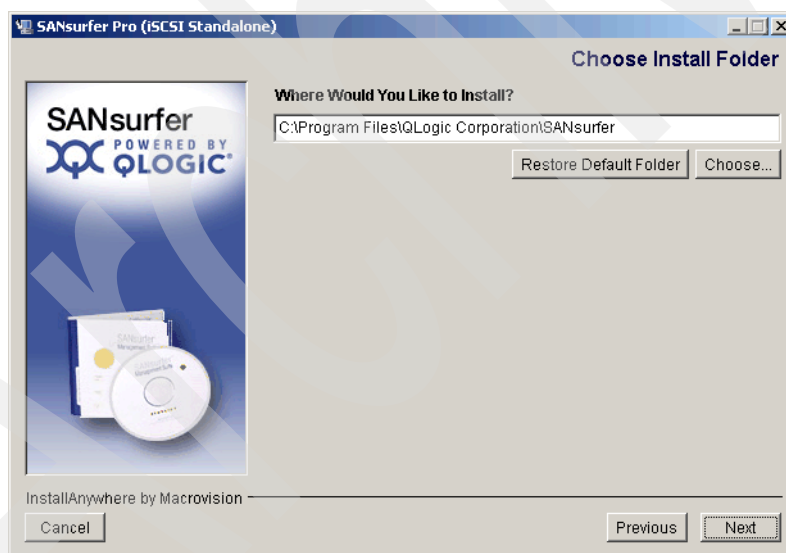

Figure 21-15 SANsurfer installation - Choose installation folder
8. Choose the installation folder and click **Next**. See Figure 21-15.